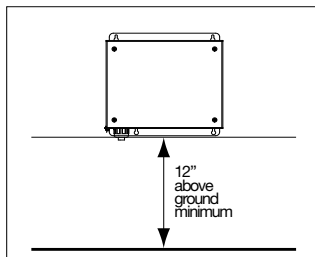

FIGURE 1
1. Select a mounting location so that the bottom surface of the enclosure will be at least twelve (12") inches above the ground (See FIGURE 1). Be sure to provide enough clearance below the box to route the power, communications, and LED accessory conduits as desired.